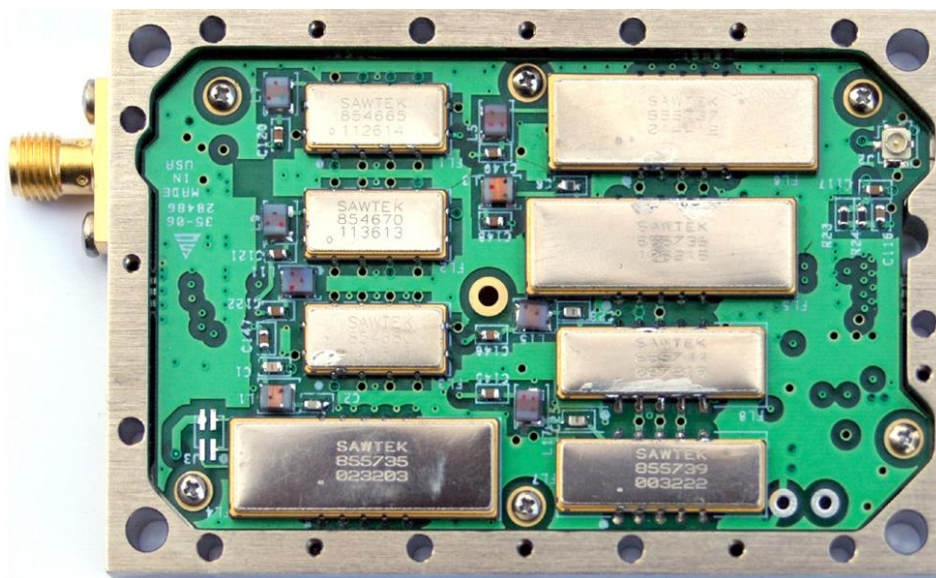
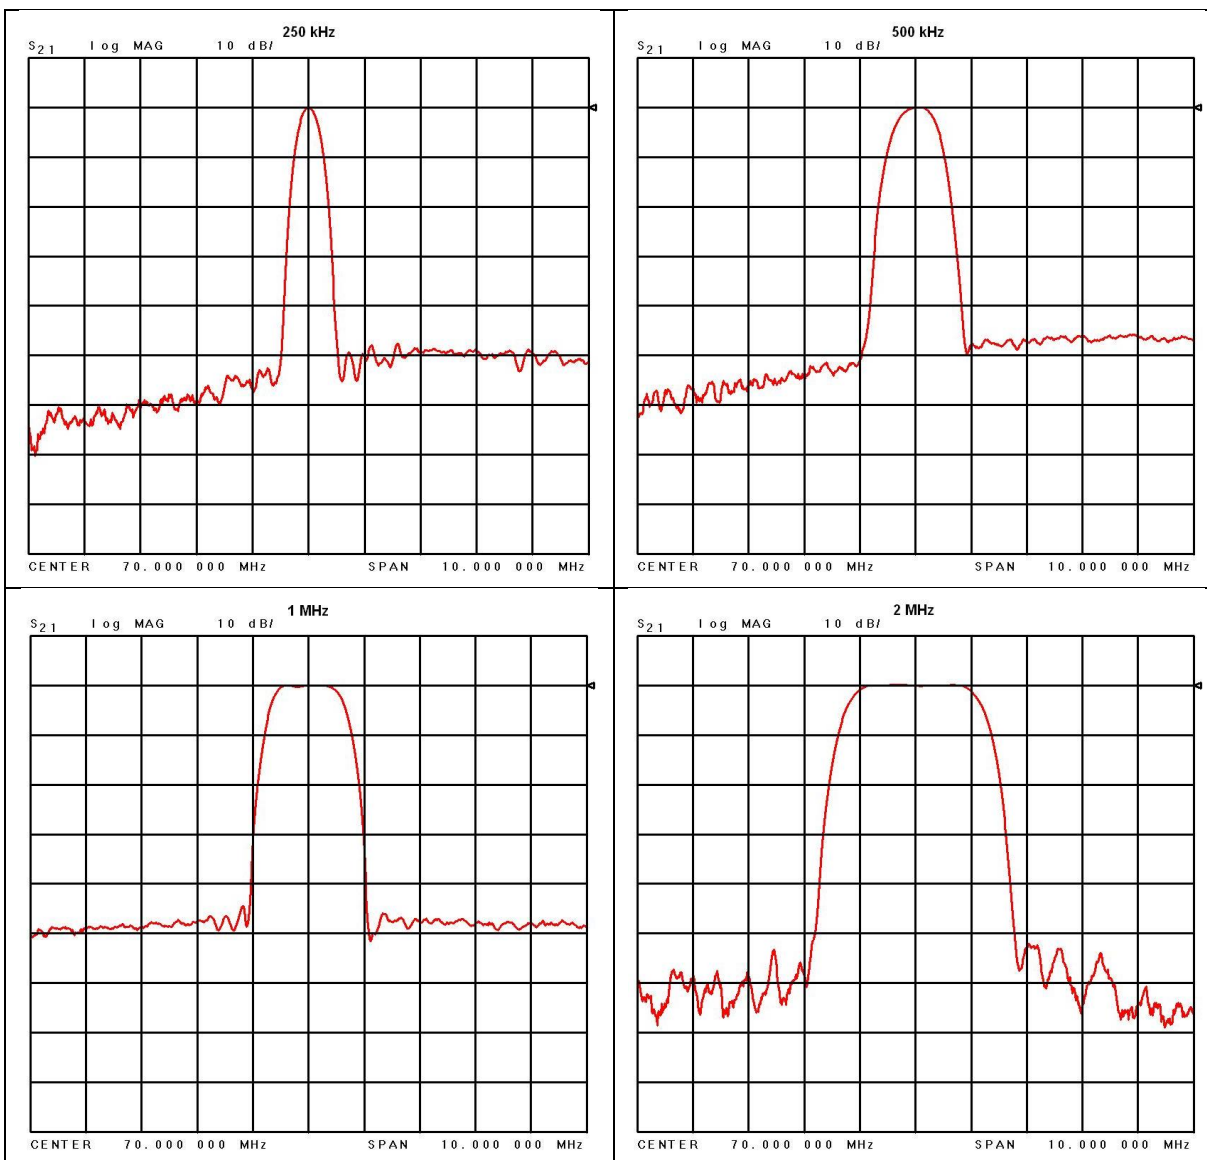
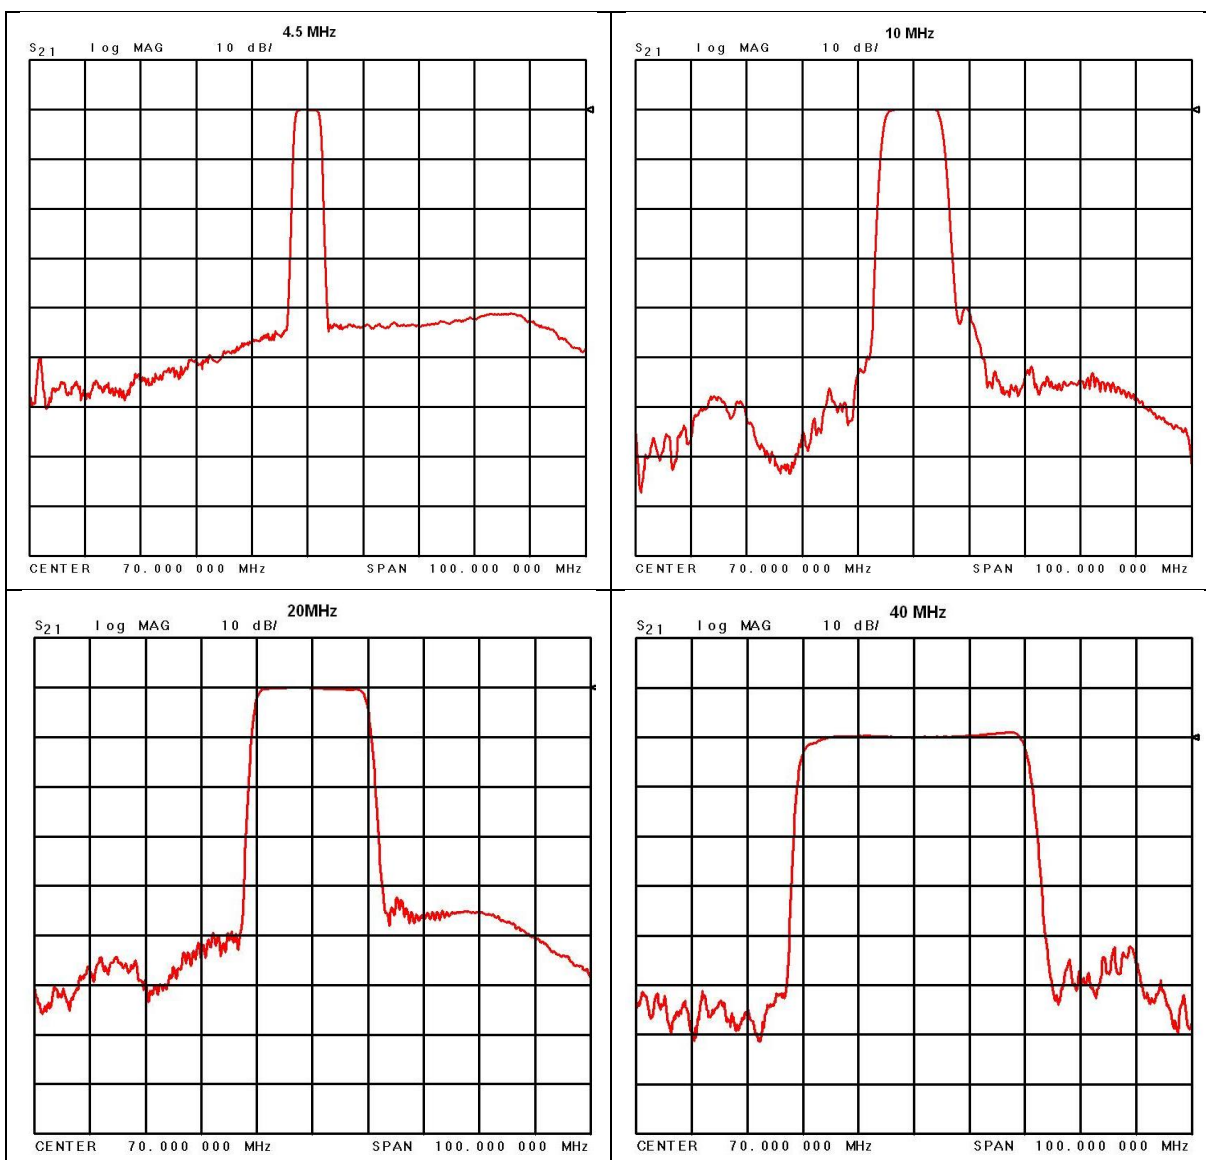

Figure 159: 70 MHz IF Module in 2" x 3" Chassis
Figure 160: 70 MHz IF Module in 2" x 3" Chassis SAW Filter Responses, Narrow Group (10 MHz Span)
Figure 161: SAW Filter Responses, Wide Group (Plotted on 100 MHz Span)
The receiver's integrated IF filter module, shown in Figure 159, includes eight (8) SAW filters, ranging in bandwidth from 250 kHz to 40 MHz in approximately one octave steps. The standard eight filters are 250 kHz, 500 kHz, 1 MHz, 2 MHz, 4.5 MHz, 10 MHz, 20 MHz, and 40 MHz. These filters serve as anti-aliasing filters ahead of the A/D converter in the demodulator itself. In addition, they can provide an added measure of adjacent channel interference rejection. The measured responses of the eight filters are shown in Figure 160 and Figure 161 (note the change of horizontal scale between the two figures).